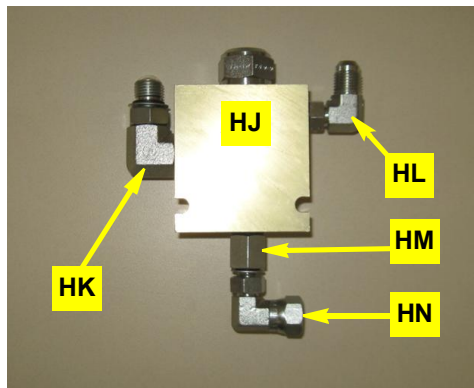

Figure 6a: Prepared load sense valve
a. Prepare dynamic load sense valve **HJ** as follows (Figure 6a):